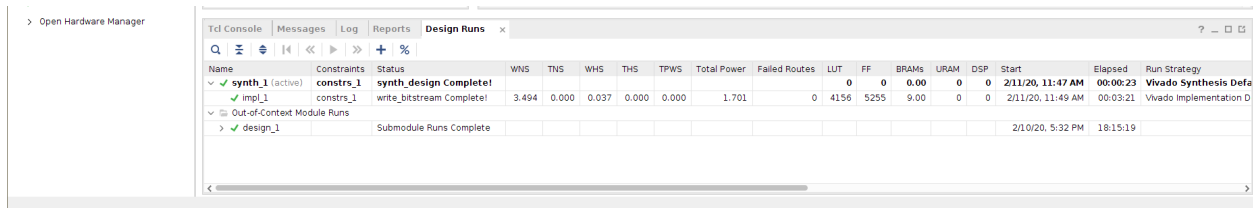
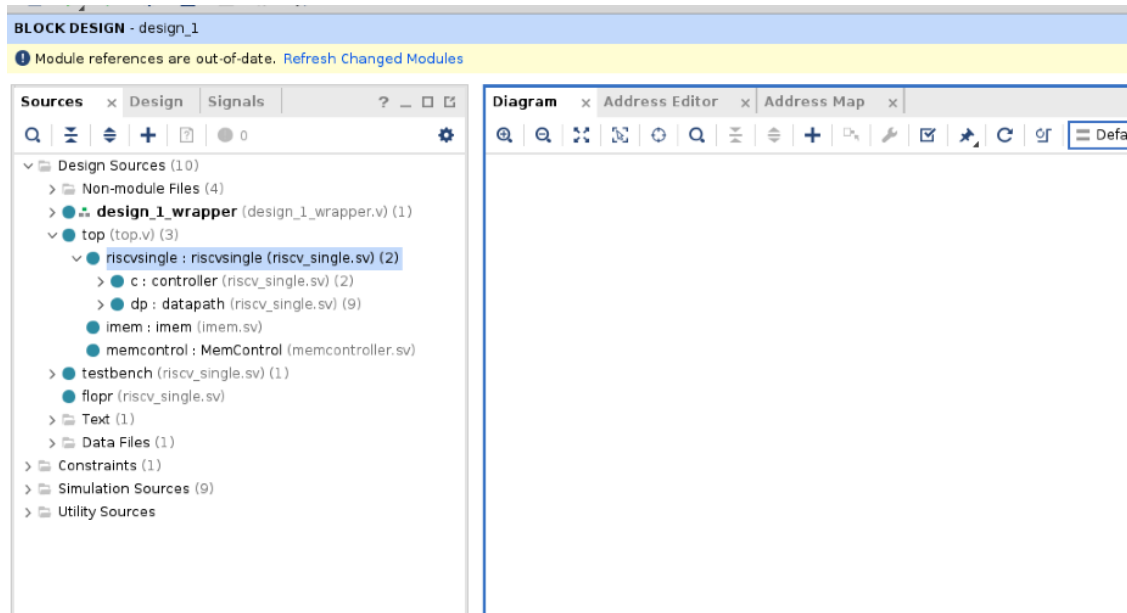
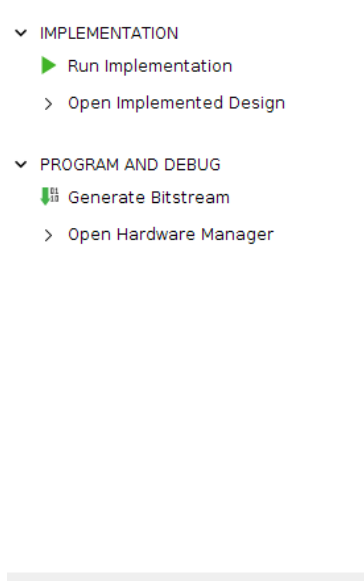

Figure 2: Bottom Panel with Tcl Console, Messages, etc.
Figure 4: Refresh Changed Modules Banner
Figure 5: Generate Bitstream under Program and Debug
4. Along the bottom of the screen, there is a collection of tabs for various status views. Select Tcl Console, which is where we will run our script (i.e., Figure 2).
All of these steps are automatic when you run the script and will chain into each other so long as no errors occur during any steps. **Again, this is why you do not want to start using the FPGA until your simulation works - errors here take longer to find and are often more complicated to solve than if you had found them in your simulations in Questa/ModelSim.** These steps might take some time to run (approximately 5 minutes) - you can view their progress in the Design Runs tab on Figure 2
If you run into errors or issues here, go to the Messages tab in Figure 2 where messages, warnings, and errors are stored and see what happened, or delve even deeper in the Log tab where the output from the toolchain is directly stored.
Anytime you make a change to the file and save it, a message will appear along the top of the screen that the Module References are Out-of-Date (i.e., Figure 4). Like what the script was doing, you've changed the module, but the other modules that connect to the RISC-V core haven't had a chance to refresh themselves and update their references. Clicking Refresh Changed Modules on that message will update the project index and refresh all references. You can then run the toolchain just like the script did by clicking Generate Bitstream on the bottom-left panel (i.e., Figure 5). A window will pop up letting you know that Synthesis is out-of-date and that will need to run first - answer Yes so all required steps will run first. Then, the Launch configuration window will open where you can set details about how the toolchain will run. Leave these at the defaults and click OK. Go to the Design Runs tab in Figure 2 to see each step's progress while waiting for them to complete (approximately 5 minutes).
6. Once Bitstream Generation is complete, a window will pop up asking what you would like to do next (i.e., Figure 5). Select Open Hardware Manager and click OK. If you accidentally close this window or select something else, you can easily get to the hardware manager using the Open Hardware Manager button below Generate Bitstream in Figure 5.
- Refresh Changed Modules using the button on the top banner (i.e., Figure 4).